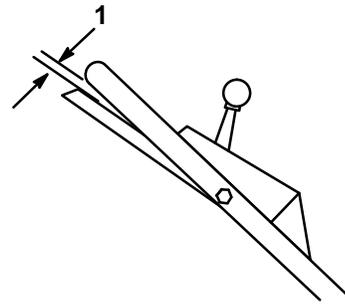

Figure 21
3. CHECK ADJUSTMENT—Slowly pull mower backward while control bar is gradually moved toward handle. Adjustment is correct when rear wheels stop turning and control bar is about 1-inch from handle (Fig. 21).